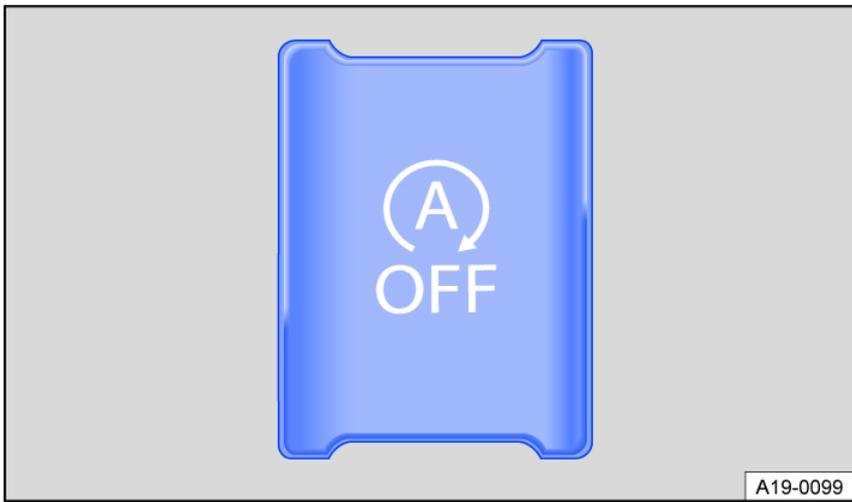

Fig. 117 In the lower section of the center console: Button for the start-stop system.
- Press the  button in the center console to manually deactivate the system. When the start-stop system is deactivated, the indicator light turns on in the fig. 117 button.
- Press the  button in the center console again to manually reactivate the system fig. 117.